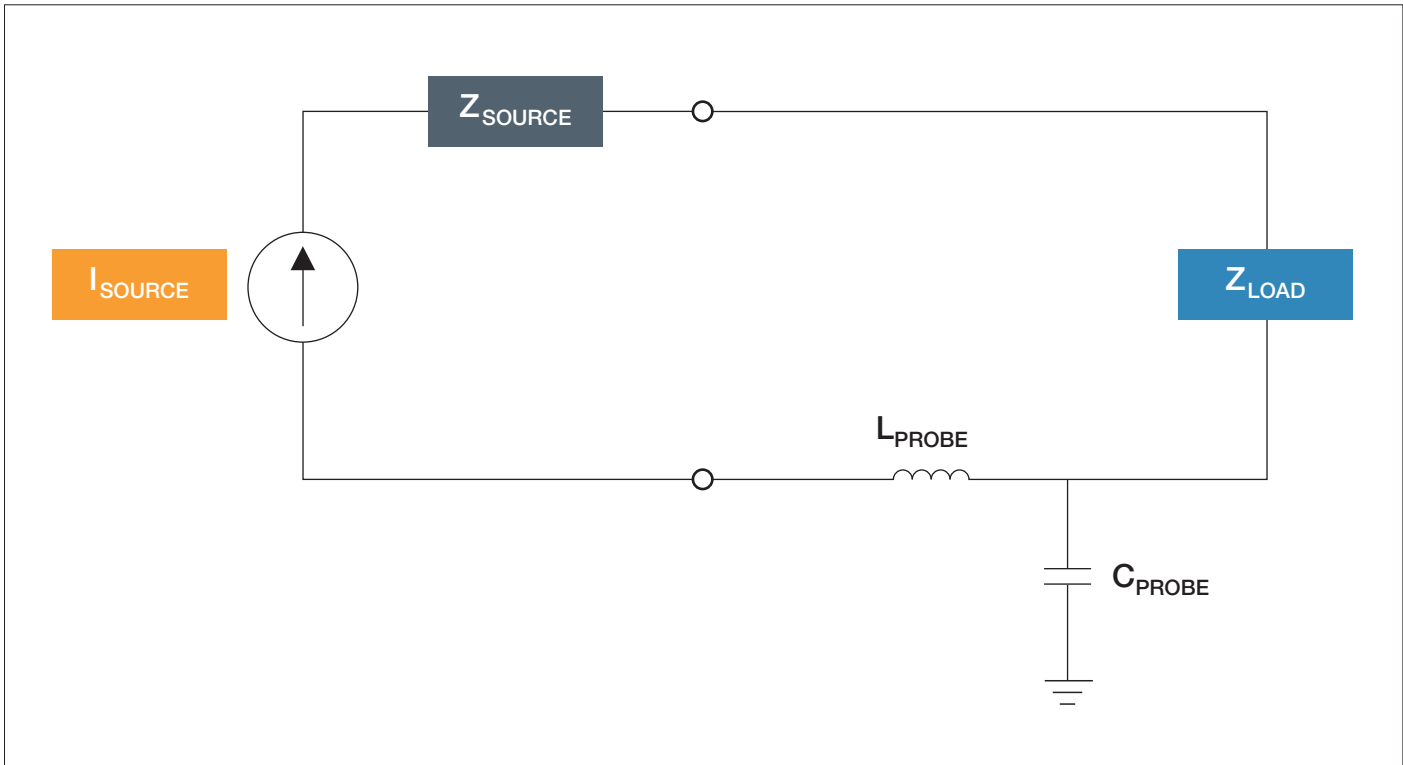

Figure 6. A simplified model indicates the inductive insertion impedance and capacitive loading of a current probe.
- Consider the inductive insertion impedance that is added to the circuit. A typical current probe may add a few nanoHenries of inductance, but the total inserted inductive reactance (see Figure 6 on page 7) is probably dominated by the inductance of the wire (about 20 nH / inch) added to accommodate the current probe.